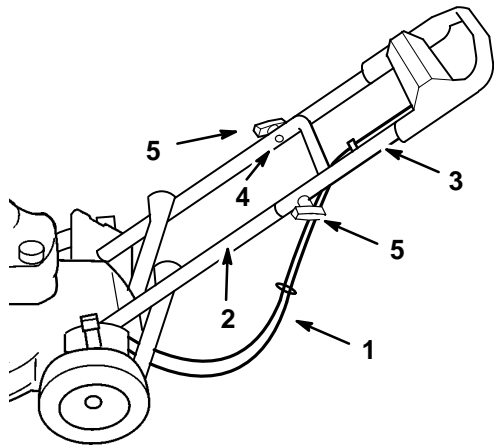

Figure 2
4. Slide the upper handle section ends over the lower handle so that the sections nest together (Fig. 2)
5. Ensure that the cables are routed below/behind the lower handle as illustrated in Figure 2.
6. Secure the upper handle to the lower handle using two contoured handle bolts and two knobs (Fig. 2).